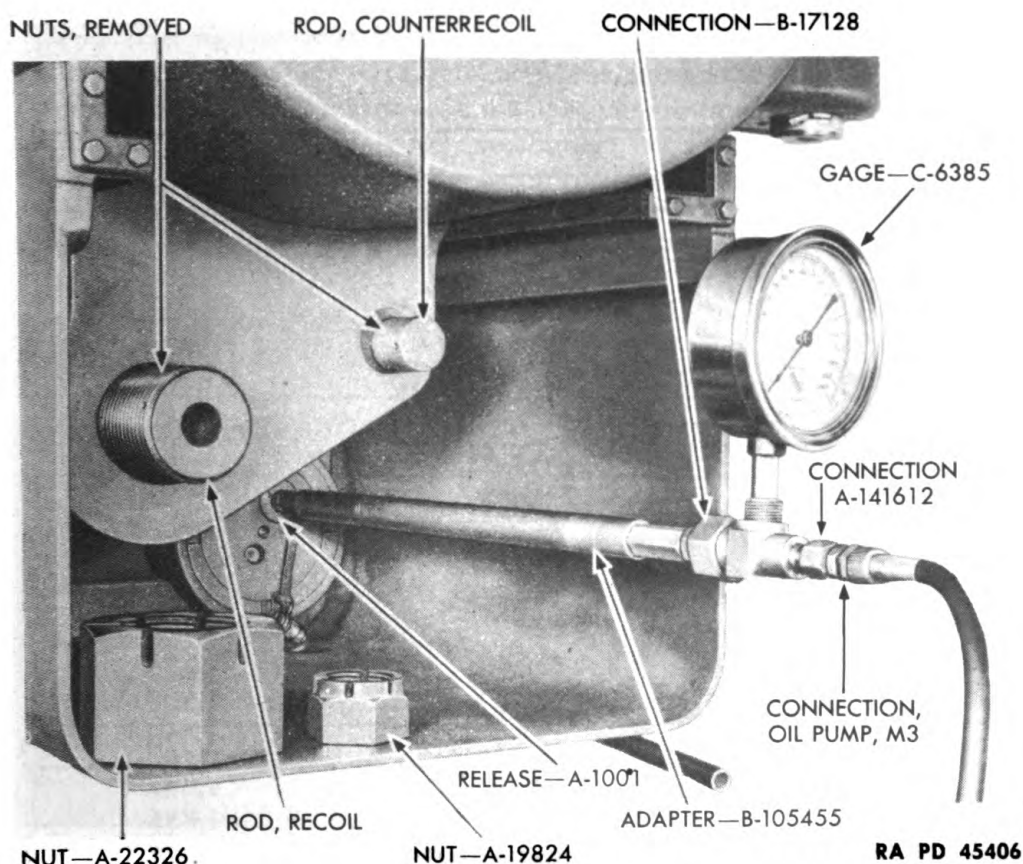

Figure 13—Manometer Test
(11) Screw pressure gage C6385 complete with connection B17128 (fig. 5) onto the end of adapter B105455, leaving this connection slightly loose for purging. NOTE: "Purging" means removing all air from the oil line when forcing oil in. This is done by slightly loosening one connection in the line, letting the air escape until no more air bubbles appear at the joint, then tightening the connection (fig. 13).
(12) Assemble connection A141612 to pressure gage connection B17128 and to the Oil Pump M3 connection. Pump slowly to purge the line, and then tighten all connections.
(13) MEASURING FRICTION OF RECOIL PISTON ROD STUFFING